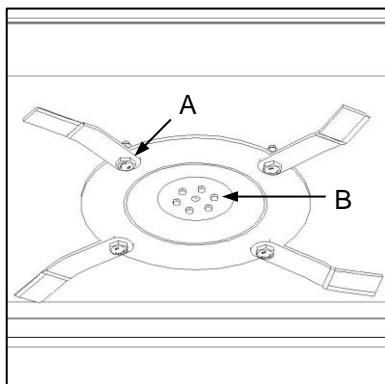
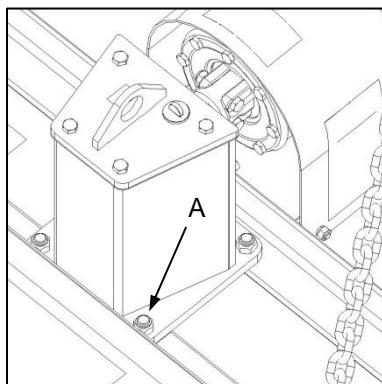
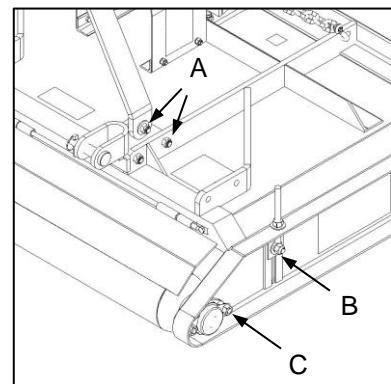

Fig. 1
Fig. 2
Fig. 3
- ✓ Check all fasteners for tightness. This includes special attention to safety-critical fasteners such as blade bolts and nuts (Fig. 1-A), cutting gear mounting bolts (Fig. 1-B), gearbox mounting bolts (Fig. 2-A), topmast mounting and pivot bolts (Fig. 3-A) and side panel retaining bolts (Fig. 3-B).
- ✓ Check bearing unit retainer bolts (Fig. 3-C) and ensure that protective covers are in place.
- ✓ Verseker dat alle hegstuks is. Dit sluit in spesiale aandag aan veiligheidskritieke hegstuks soos lem-boute en -moere (Fig. 1-A), snymeganisme-montereboute (Fig. 1-B), ratkasmonteerboute (Fig. 2-A), topmasmonter- en -spilboute (Fig. 3-A) en sypaneelmonterboute (Fig. 3-B).
- ✓ Gaan koeëllaereenheid-keerboute (Fig. 3-C) na en verseker dat beskermende bedekkings in posisie is.